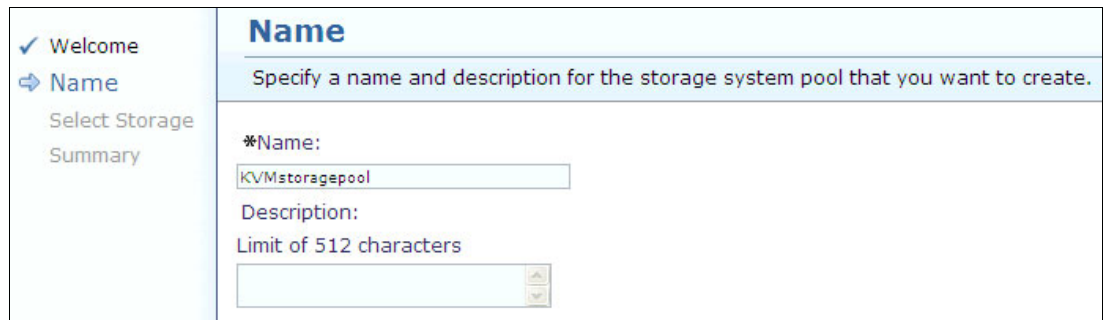

Figure 9-60 Storage system pool name
3. Specify the name to assign to the storage system pool as shown in Figure 9-60, then click **Next**.